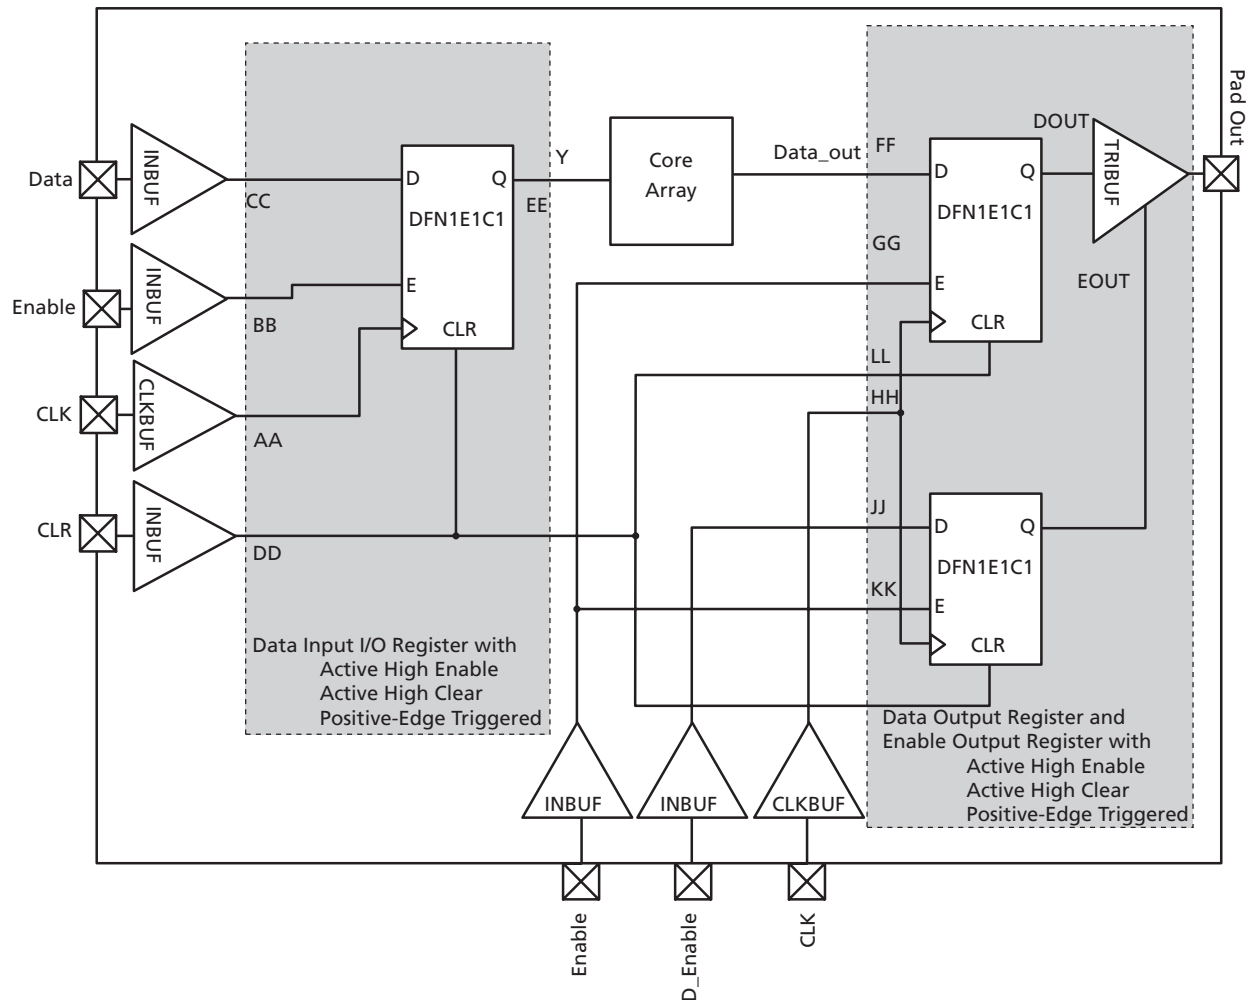

Figure 2-17 • Timing Model of the Registered I/O Buffers with Synchronous Enable and Asynchronous Clear
* See Figure 2-17 on page 2-86 for more information.